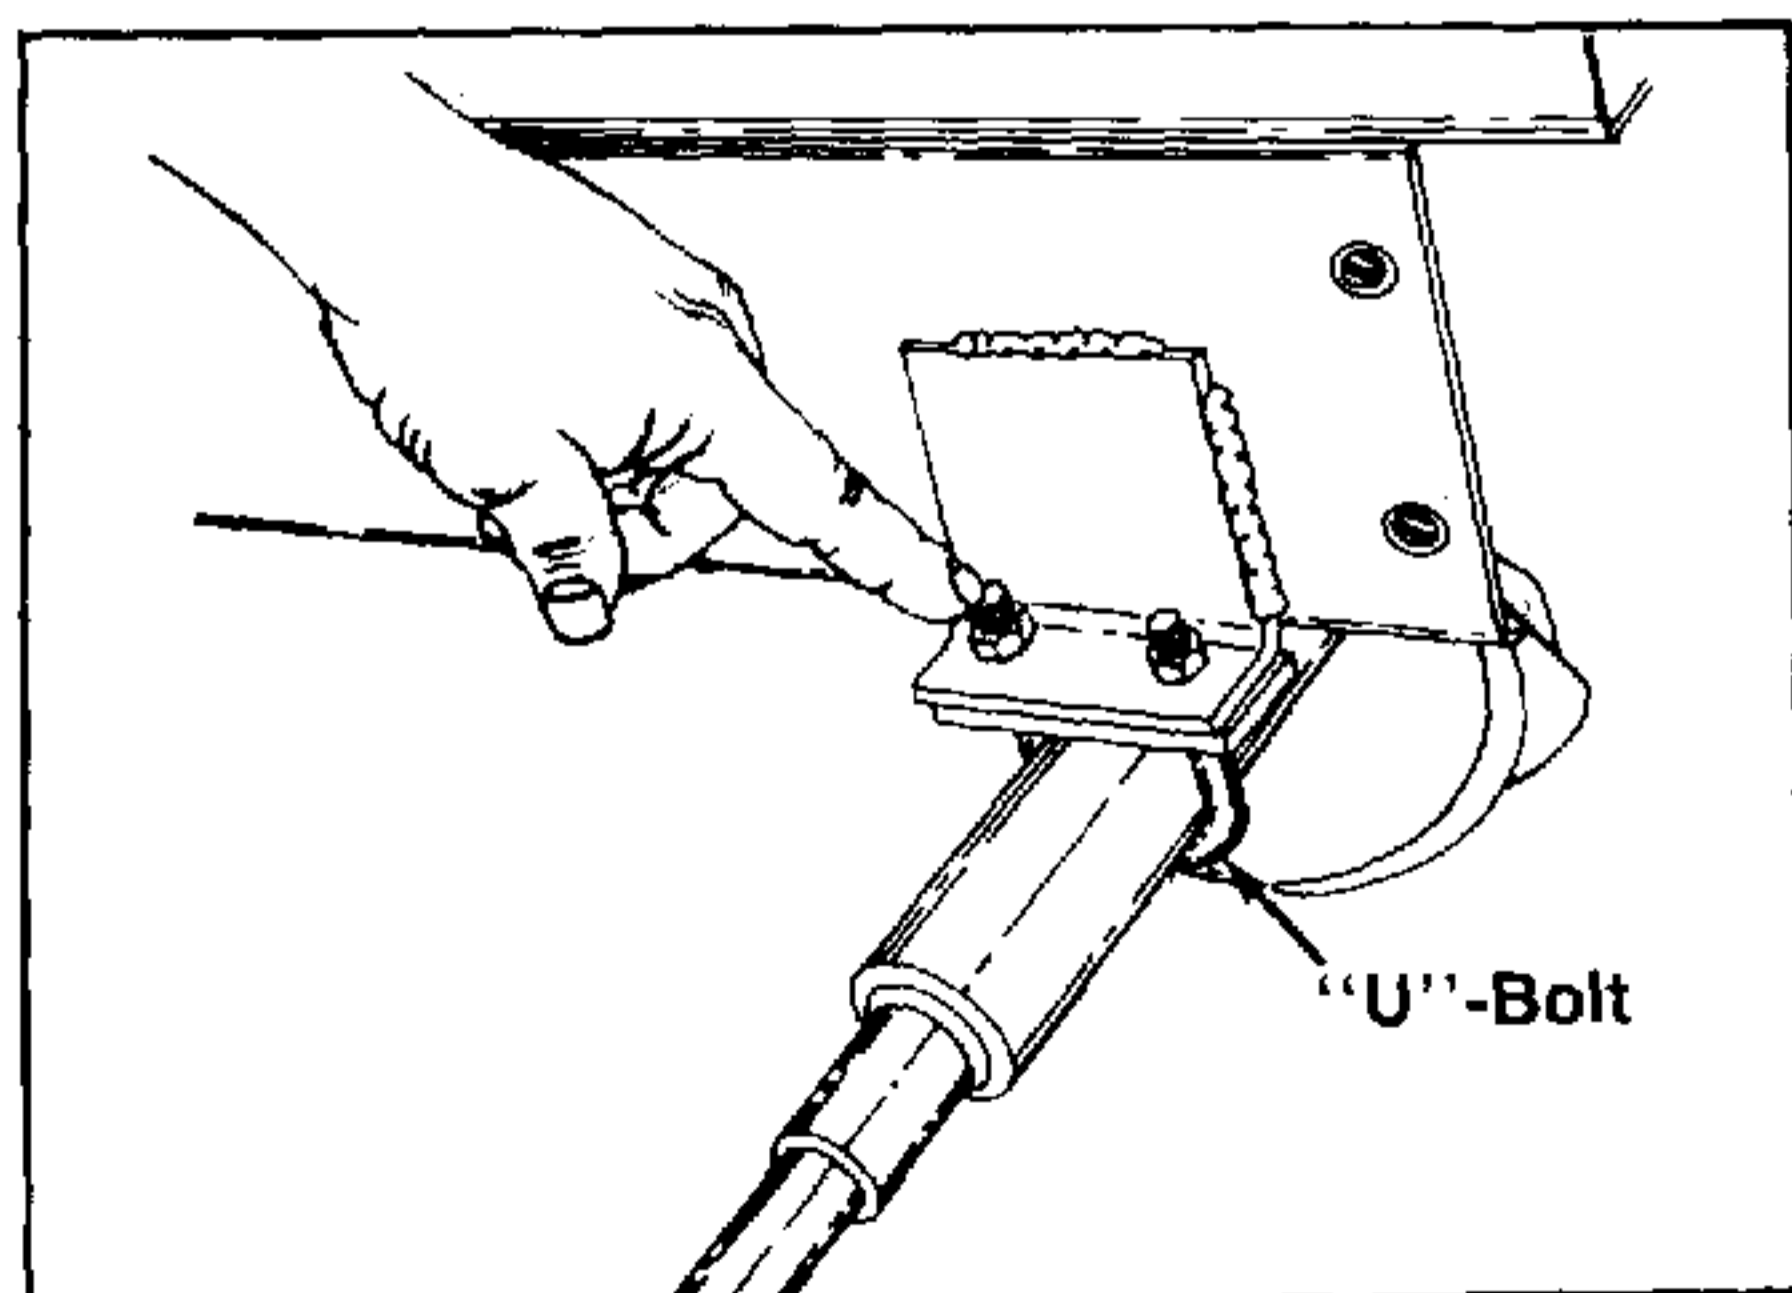

FIGURE 9.
10. Remove the two "U"-Bolts that retain the final drive housing to the frame of the tractor. See figure 9.